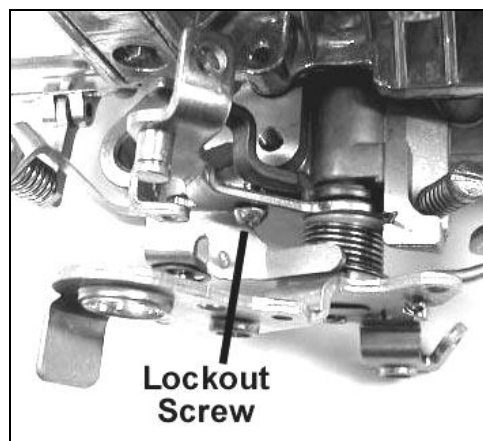

Figure 7—Ford applications
3. Remove the lock out screw from the kickdown lever (Figure 7).